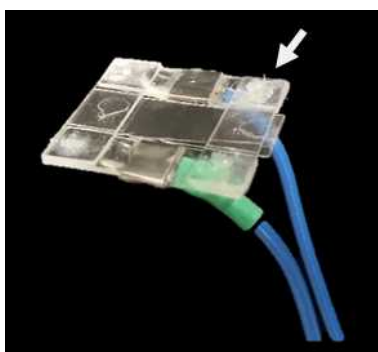

Figure 2. Stimulator Insert: Bottom face corners with a drop of grease (white arrow).
- 3 Add a drop of grease to every corner (bottom face) of the 'Stimulator insert' (Figure 2).